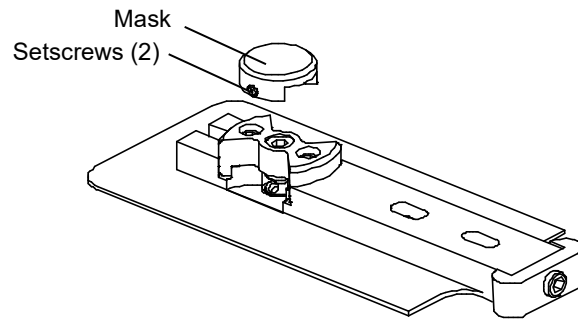

Figure 12 • Installing a mask on the diamond sampling plate
- Lower the mask (Figure 12) onto the bottom of the sampling plate.